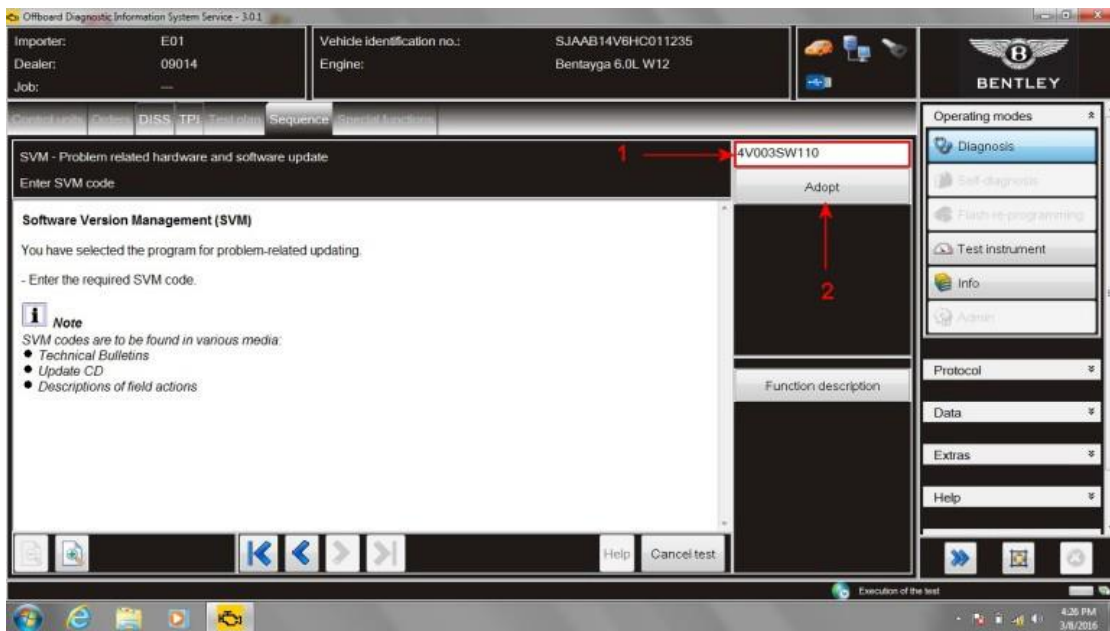

Figure 3
10. At SVM process screen enter (1) the specific SVM code **4V003SW110** and then *Adopt* (2) (see Figure 3)